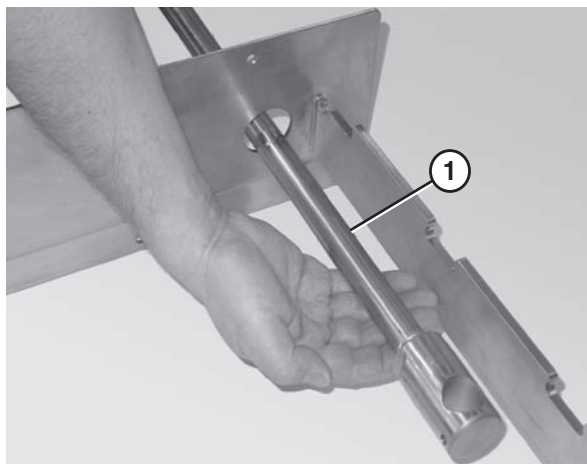

Figure 11
1. Slide the tip up shaft (**Figure 11, item 1**) through the designated slots in the frame.